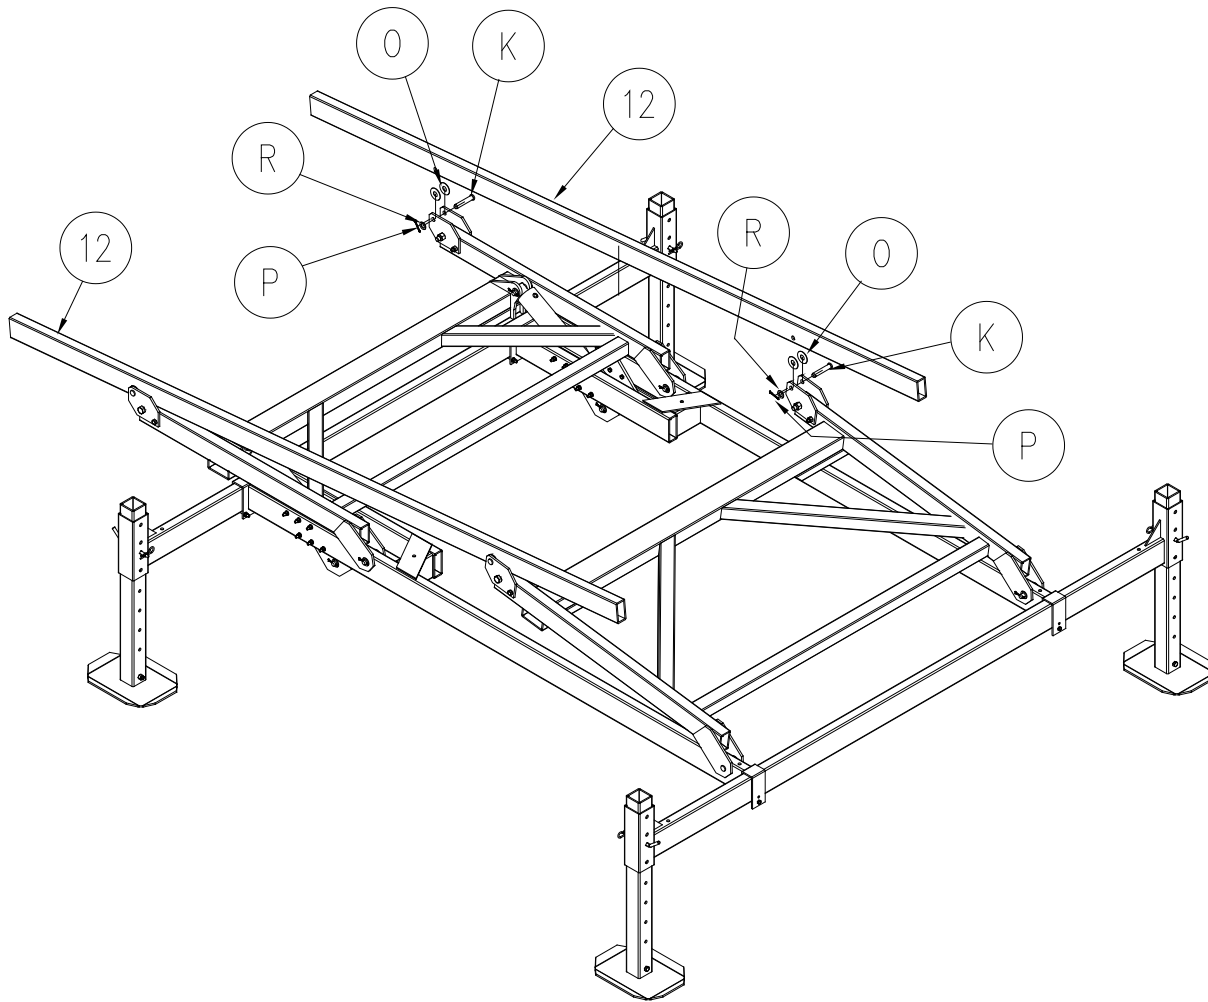

Figure 3-5.
1. **Refer to Figure 3-5.** Install aluminum platform support beams (12) to the lift arms.
2. Insert clevis pin (K) through one side of the aluminum bunk. Insert nylon washer (O) between support beam and the lift arm. Finish inserting clevis pin through the support beam. Insert another nylon washer (O) between the support beam and other side of lift arm before fully inserting clevis pin. Repeat for other end of support beam.
3. Install flat washer (R) and cotter pin (P) on each end of clevis pin (K). Secure clevis pin by spreading end of cotter pin apart and bending around clevis pin. Repeat for other end of support beam.